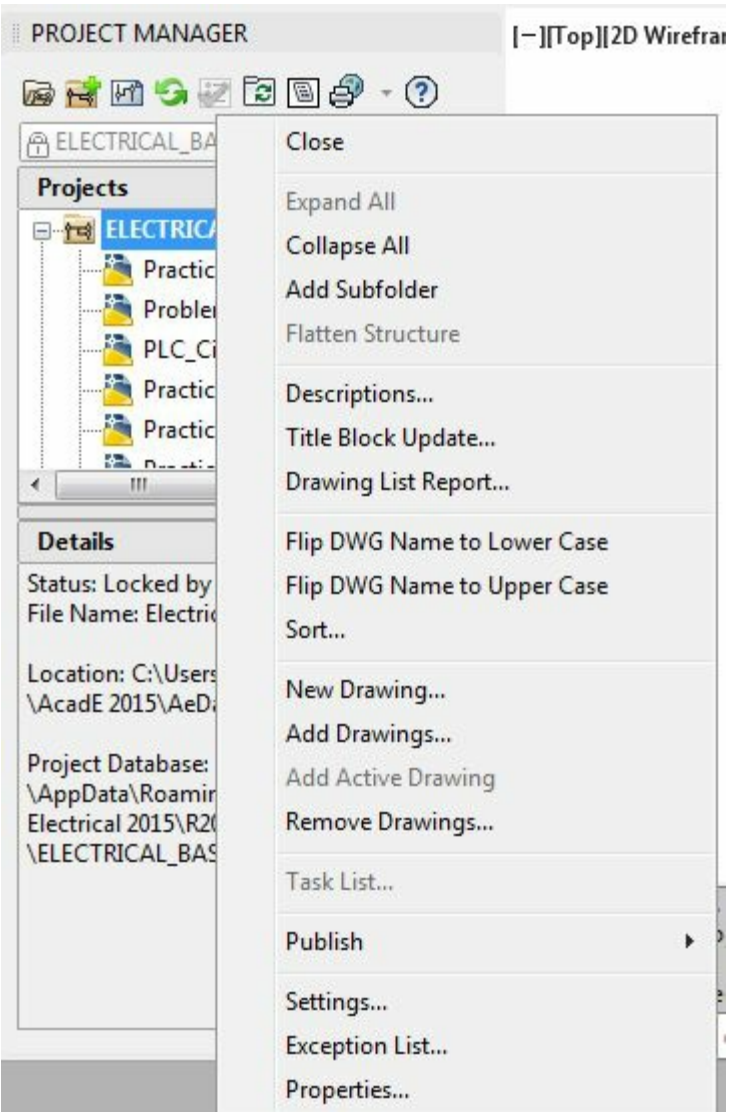

Figure-45. Shortcut menu of Project
- Right click on the project name in the **Project Manager**; refer to Figure-45.